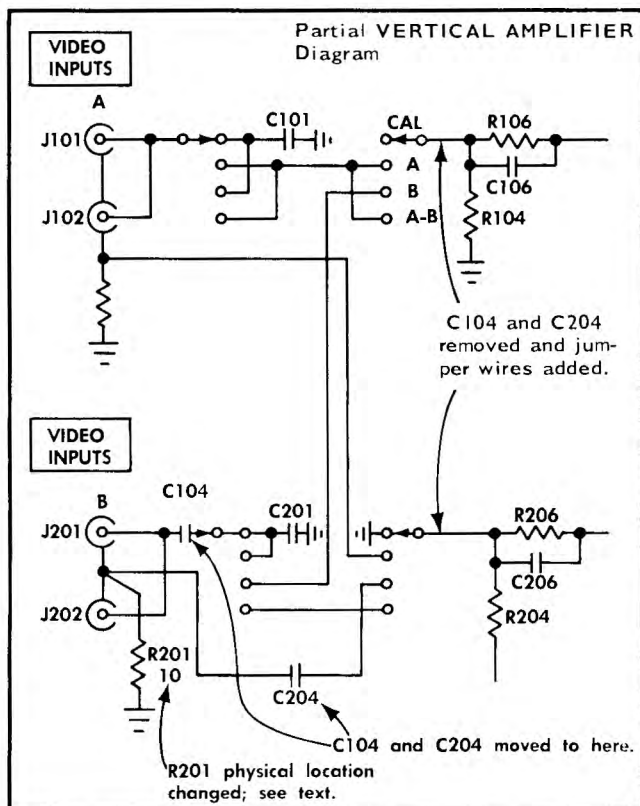

Fig. 2-5. Modification to DC couple VIDEO INPUTS A.
- a. Refer to the Vertical Amplifier diagram at the back of this manual and the partial diagram shown in Fig. 2-5.